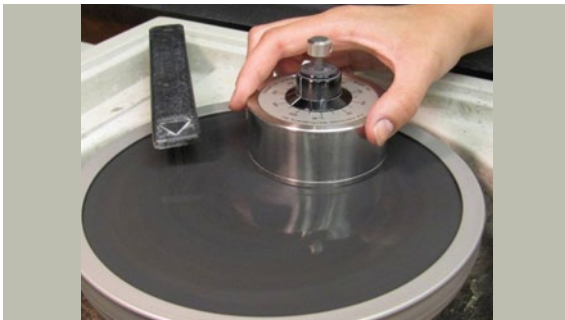

Figure 6. Use the Fischione Model 160 Specimen Grinder to grind the cross section to 100 µm thickness.
3. Grind one side of the cross section to a 1 µm finish (Figure 6).